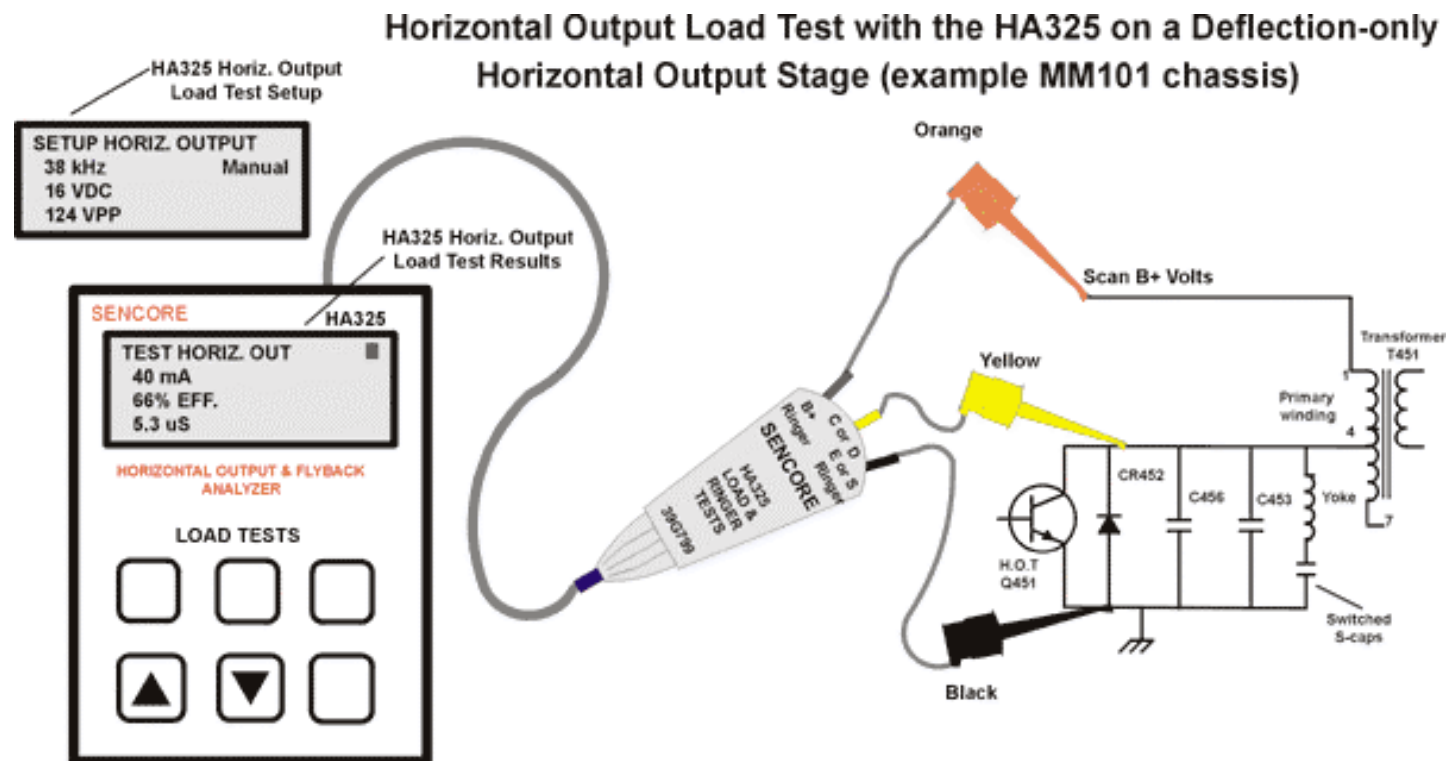

Fig. 5 - Setup and Load Test Results on an MM101 deflection horizontal output stage.
The Horiz. Output Load Test properly simulates the operation of the deflection output in the MM101 for detecting loading and timing defects. The Load Test clips are connected to the horizontal output stage as shown in figure 5.
1. Remove Power to the Chassis – Connect test clips as shown in figure 5.